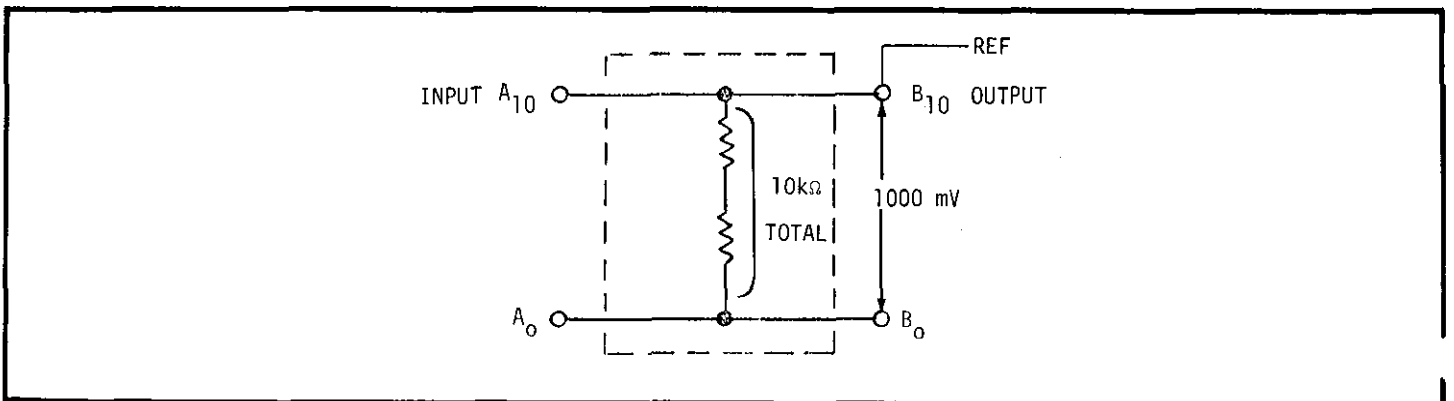

FIGURE 39. Voltage Divider Connections, 1000mV Output.
- a). Connect Voltage Divider for 1:1 division ratio as shown in Figure 39.